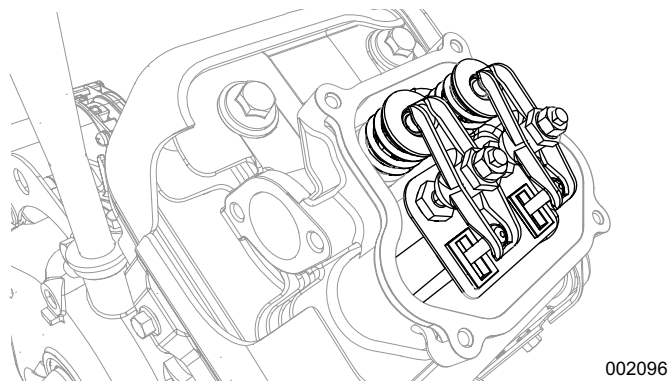

Figure 6-15. Install Rocker Arm and Pivot Ball Stud
6. See Figure 6-15. Position push rod guide plate on the head. Then install the rocker arms and pivot ball studs. Install the jam nuts far enough to hold the guide plate in position. Valve clearance will be adjusted later.